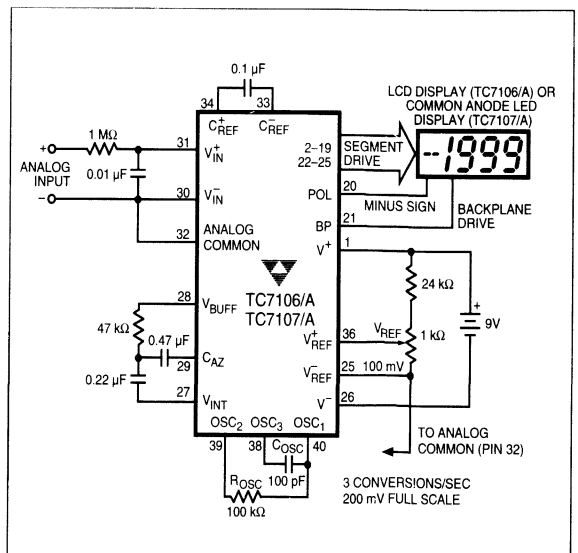

Figure 1 TC7106/A/7/A Typical Operating Circuit
3. Unless otherwise noted, specifications apply to both the TC7106/A and TC7107/A at T_A = 25°, f_{LOCK} = 48 kHz. Parts are tested in the circuit of Figure 1.